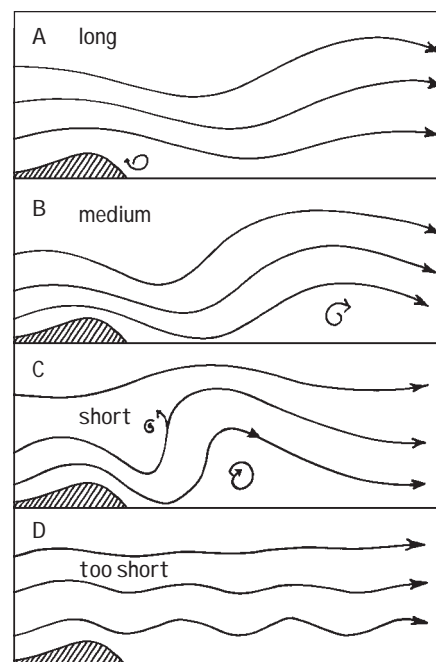

Figure 2 A decrease of wavelength moves the primary wave and alters the steepness and amplitude of the streamlines until the system collapses.
This is shown in Figure 2. In the last example (D) the wavelength became too short and the system collapsed. In some circumstances the steepest wave and the strongest lift occurs in stage (C) just before the critical speed when the wave ceases. Big lee waves are usually steady.